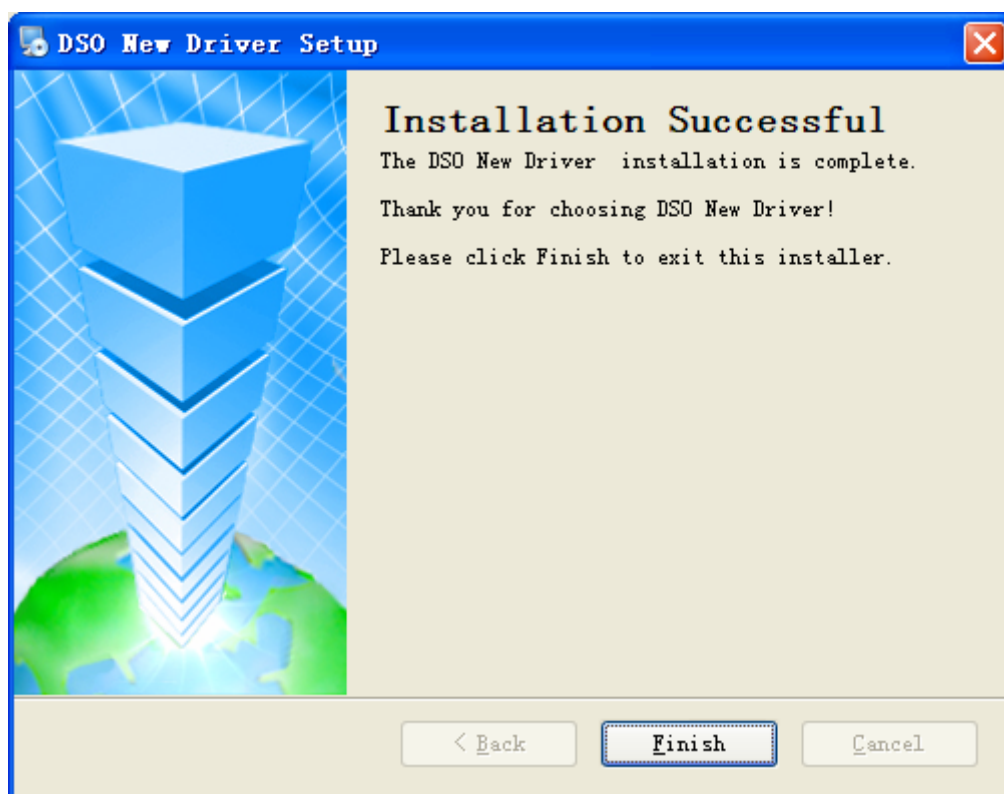

Fig.1-9
Step 3: After automatic program installation, an interface as shown in Fig.1-9 will pop up. Click **Finish (F)** to finish installation of the USB driver on the computer.